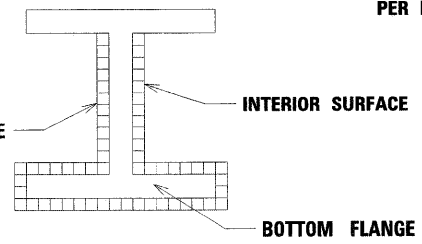

FIGURE 5
9. LOCATION 7 (016-1046): ALL BEAMS, BEARINGS AND OTHER STRUCTURAL STEEL WITHIN FIVE (5) FT. (MEASURED ALONG THE BEAM) OF EITHER SIDE OF THE DECK JOINT AT PIERS 53 AND 5, SHALL BE CLEANED PER NEAR WHITE BLAST CLEANING SSPC-SP10. THE INSIDE FACE AND BOTTOM FLANGE (SEE FIGURE 5) OF THE SOUTH FASCIA BEAMS OF SPANS 8 (BETWEEN PIERS 59 AND 60) AND 9 (BETWEEN PIERS 58 AND 59), SHALL BE CLEANED PER NEAR WHITE BLAST CLEANING SSPC-SP10. ALL BOTTOM FLANGES (SEE FIGURE 2) OF SPAN 7 (BETWEEN PIERS 60 AND 61), SHALL BE CLEANED PER NEAR WHITE BLAST CLEANING SSPC-SP10. IN SPANS 15 THROUGH 17 (BETWEEN PIERS 53 AND 5), THE EXTERIOR SURFACES AND TOP AND BOTTOM OF THE BOTTOM FLANGE OF THE FASCIA BEAMS (SEE FIGURE 1) SHALL BE CLEANED PER NEAR WHITE BLAST CLEANING SSPC-SP10.